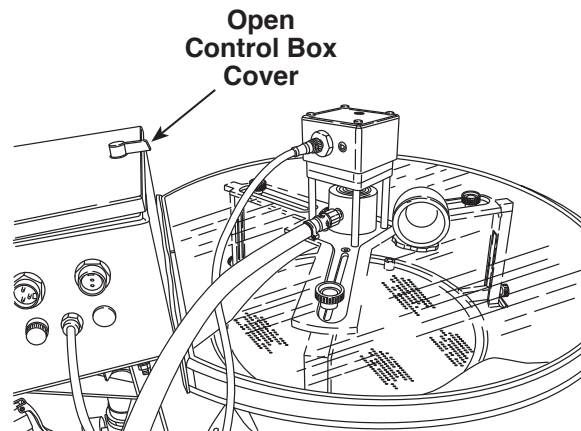

Figure 15
1. Once a DPF has been loaded into the DPF Cleaner according to the instructions in the *Setup* section of this manual, open the cover of the control box. See Figure 15.